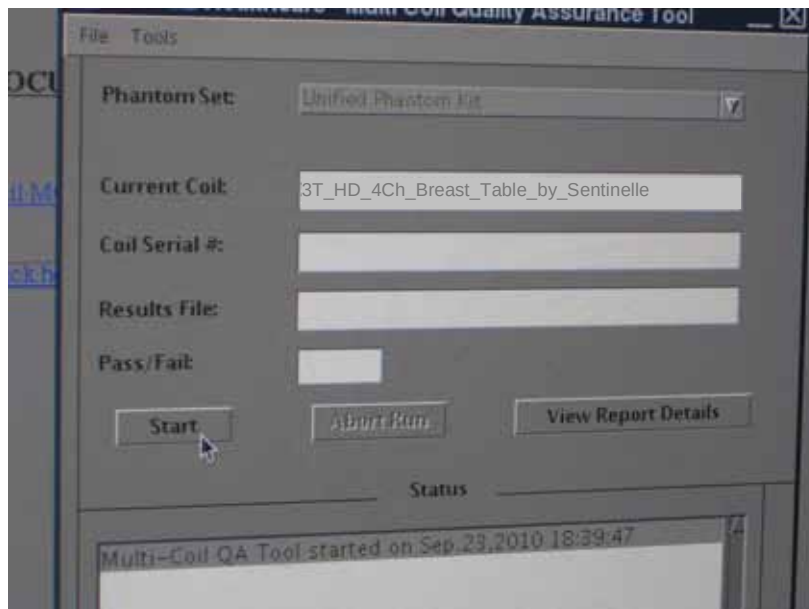

Figure 67: Screen Capture – MCQA Tool Start
6. Do not start a new patient; open the Tools box, and start the System Browser. Select the top tab marked 'Image Quality.' In the side menu, select 'Multi-Coil QA Tool', then 'Click here to start this tool.' The program shown in Figure 67 will start: